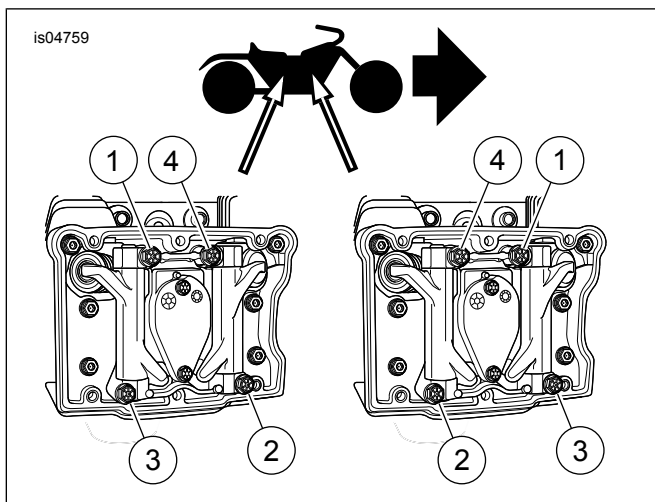

Figure 9. Tighten Four Rocker ARM Bolts 1/4 Turn in Sequence Shown
10. Alternately tighten each of the four rocker arm support plate bolts **just 1/4 turn**, following the sequence shown for the **front or rear cylinder** in Figure 9. *NOTE: Since the engine was left in the chassis for this installation, the left rear rocker arm support plate bolt (on the rear cylinder only) should be final tightened using a 3/8 inch drive torque wrench with a 1/2 inch flank drive "dog bone" torque adapter (Snap-On FRDH161 or equivalent). Since any extension can act as a torque multiplier, the torque wrench must be perpendicular to the torque adapter when the bolt is tightened. The 90 degree orientation between the tools cancels the multiplier effect and prevents the bolt from being over-tightened. If the adapter is kept in line with the torque wrench, the multiplier effect will cause distortion of the rocker housing. Continue turning the bolts in 1/4 turn increments, following the same alternating sequence until the bolts are tightened to 24.4–29.8 N·m (18–22 ft-lbs).*